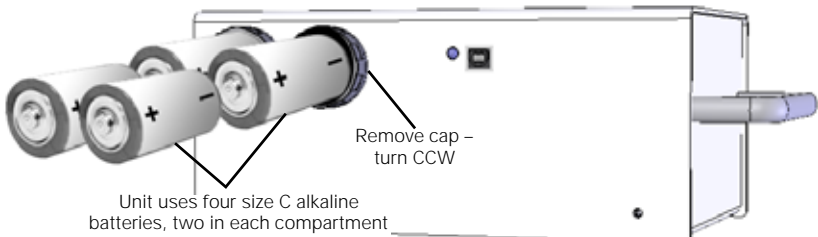

Figure 2. Inserting Batteries
The battery compartment is accessed from the right side panel of the Radon Sentinel (Figure 2). Replacement batteries can be purchased from any retail source.
- 2 Insert two size C alkaline batteries, so that the negative end of the battery goes into the compartment first (Figure 2).